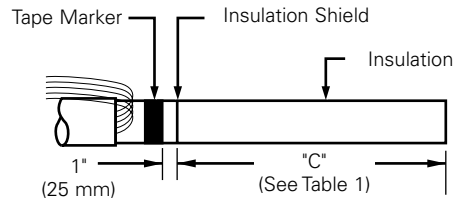

Figure 5. Line illustration of cable stripback.
- Remove insulation shield length "C" from end of cable. (Refer to Figure 5 and Table 1 to determine variable "C" length.)
- Measure 1" (25 mm) from end of insulation shield. (Refer to Figure 5.)